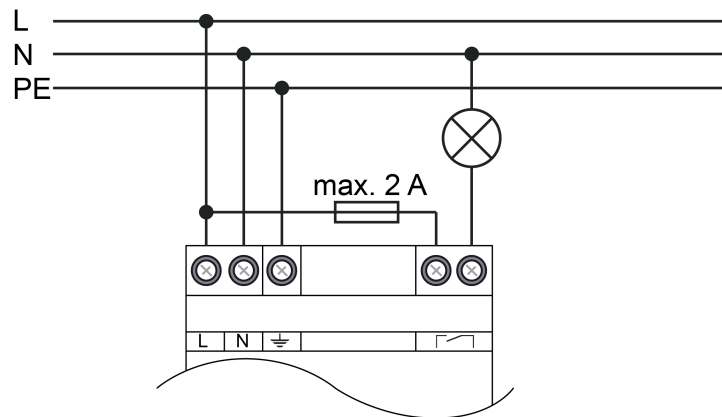

Figure 3: Connection example for optical signalling device
- Connect the signalling device according to the connection example (Figure 3)Connecting .